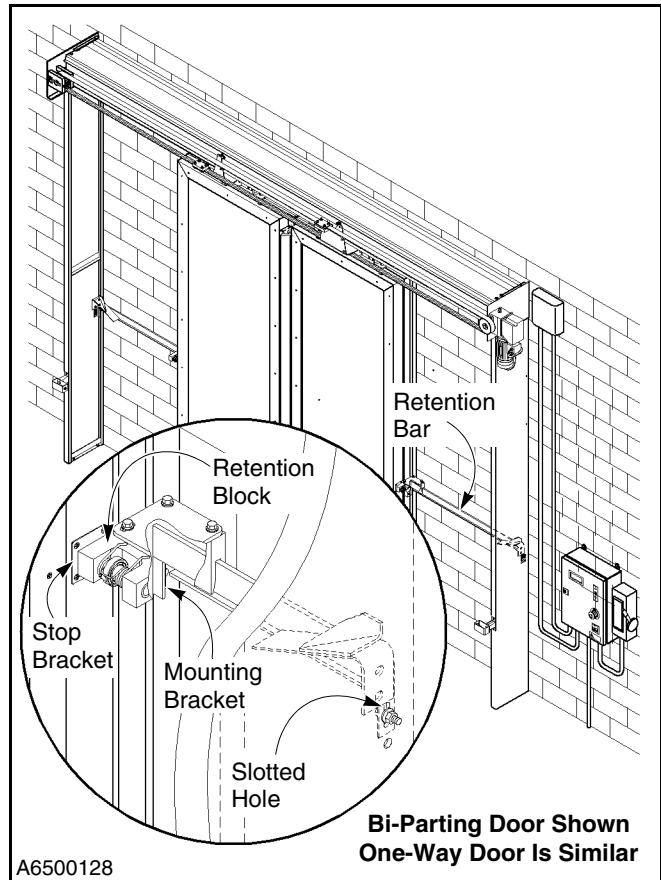

Figure 19
1. Check all mounting hardware associated with the door retention system. Inspect the hardware securing each retention bar to its associated side panel and to the frame of the door seal. Inspect the set screw located in each locking collar that secures each retention block to the door. (See Figure 19.)